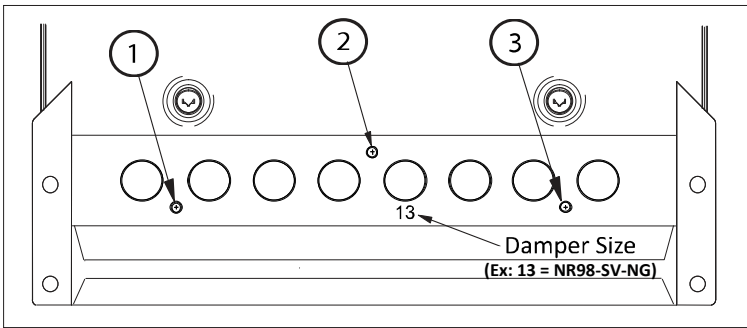

FIGURE 4
- 9) After manifold plate is removed, the existing damper will be exposed as indicated in Figure 4 below. Remove screws (1), (2), (3), and then pull the damper off the burner assembly. Check for proper size of damper with the chart below and replace with new damper that was included with your gas conversion kit.